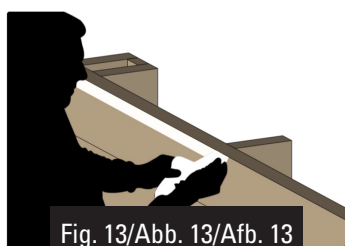

Fig. 13/Abb. 13/Afb. 13
- Stick the two-faced adhesive tape panel by panel, aligning it with the upper part of the top boards (figure 13).